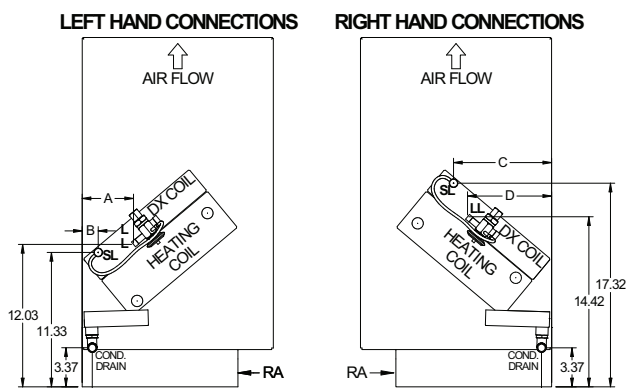

Fig. 19 — DX Cooling (Size 0750) with Pre-Heat Coil (No Piping Package)
- a. For Chilled Water piping location see Fig. 11. For DX Cooling piping location see Fig. 19 and 21.